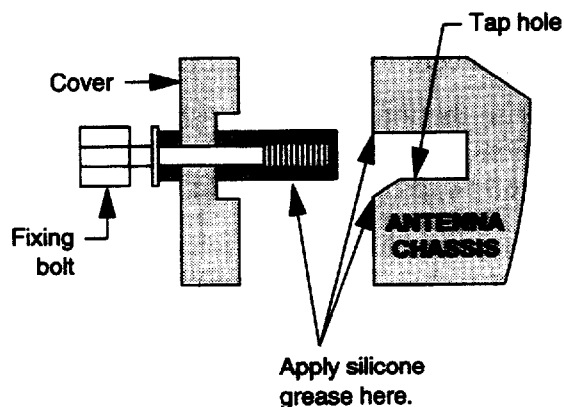

Figure 11 Coating scanner unit cover with silicone grease
- 14) Coat waterproofing gasket, bolts and tapping holes of scanner unit with silicone grease as shown in Figure 11.